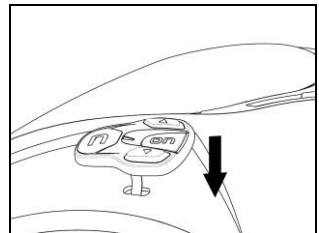

Fig. 26
- Pass the keypad cable through the hole in the outer shell (Fig. 26).